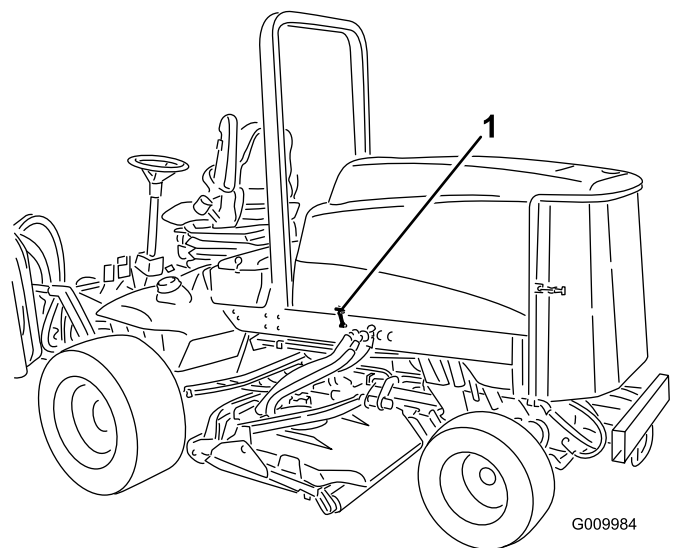

Figure 3
1. Unhook the hood latch from the hood latch bracket (Figure 3).